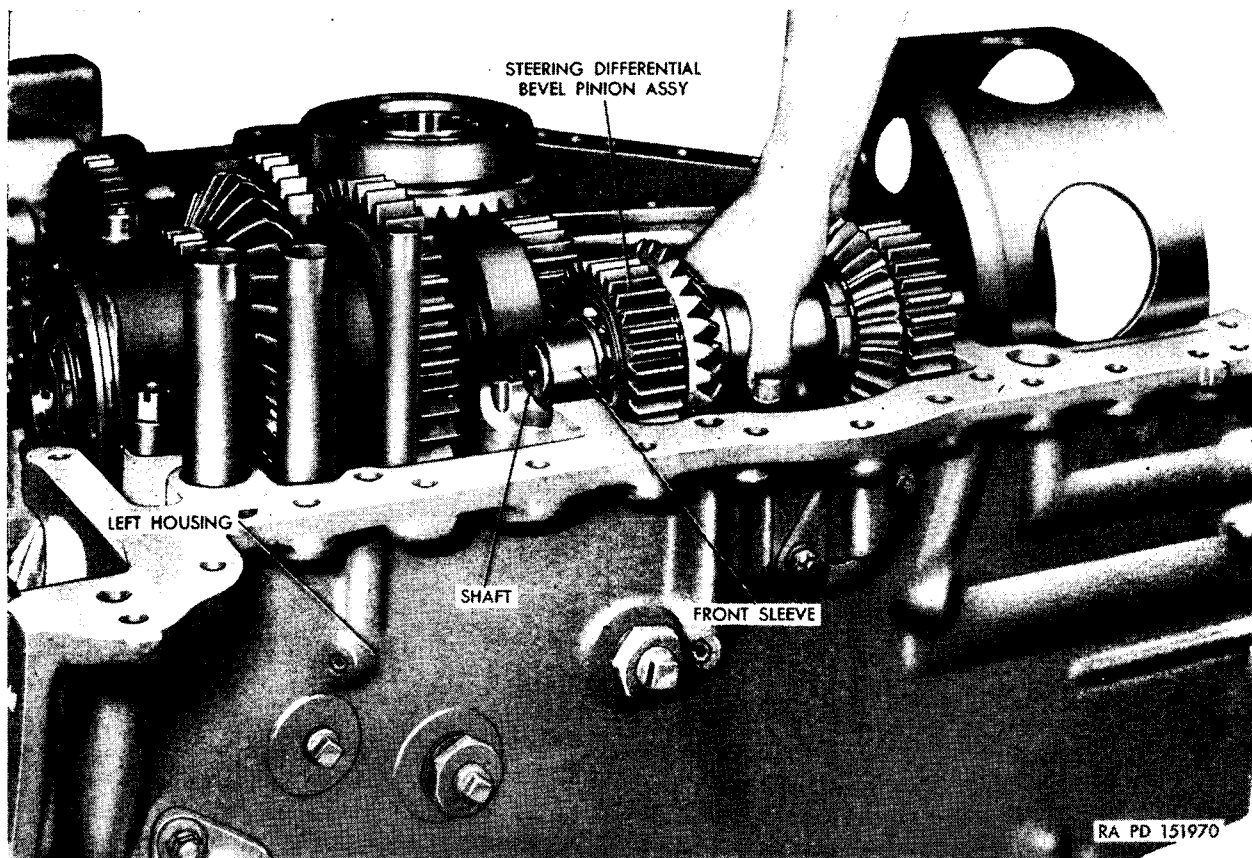
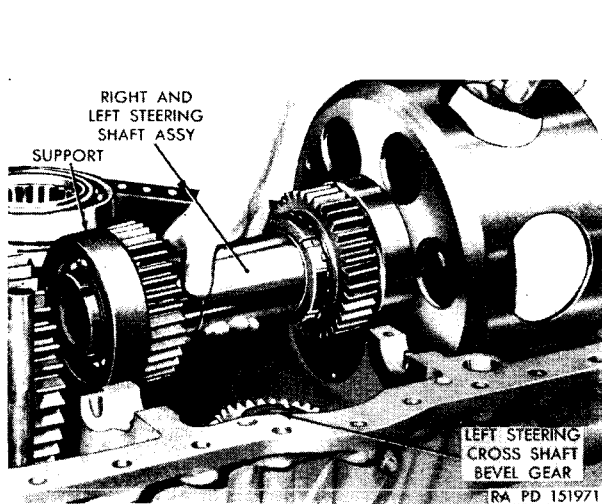
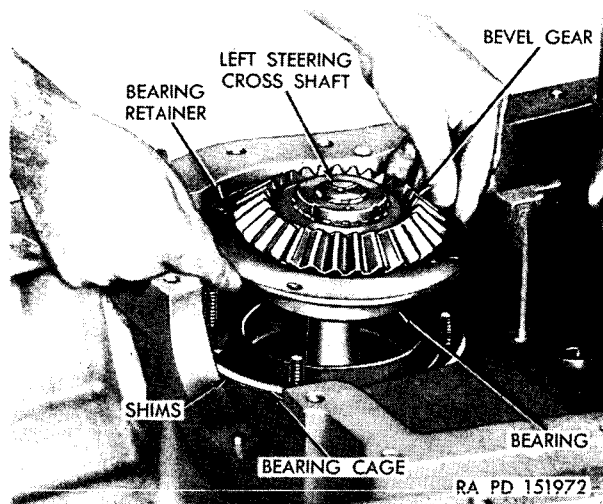

Figure 231. Removing or installing steering-differential-bevel pinion assembly.
Figure 232. Removing or installing right- and left-steering shaft assembly.
Figure 233. Removing or installing left steering-cross-shaft and bearing assembly.
b. STEERING-DIFFERENTIAL BEVEL PINION ASSEMBLY. Tap the steering differential assembly lightly with a soft hammer to loosen it from the housing dowels in each end of the differential shaft. Lift the steering-differential bevel pinion assembly off the dowels being careful to prevent the sleeves and gear assemblies from sliding off the shaft (fig. 231). Lift the right- and left-steering shaft assembly from the housing (fig. 232).
- (1) Remove a cotter pin from each of the four nuts which secure the bearing retainer and left steering cross-shaft bearing cage. Remove the four nuts using a ½-inch wrench.
- (2) Lift the left steering-cross-shaft and bearing assembly out of the housing (fig. 233).